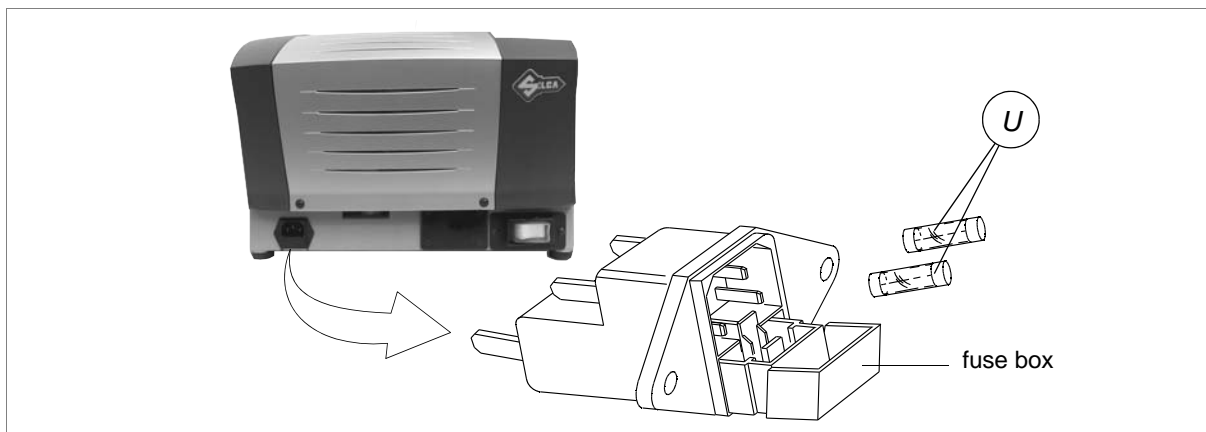

Fig. 25
- 3) Remove the fuses box placed below the key-cutting machine socket (fig.25).
- 4) Replace the fuses (U).